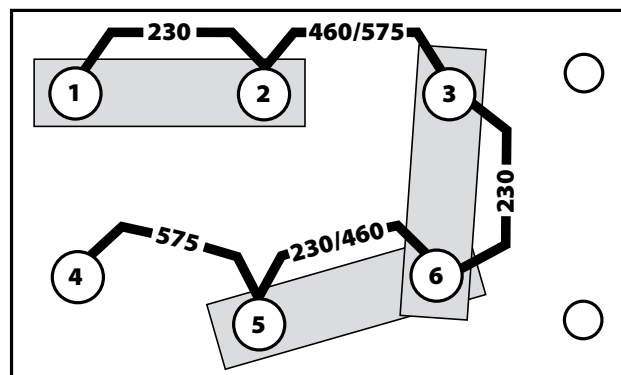

Figure 2-2. Input Terminal Board Configuration for 230V Input
5. Figures 2-2 thru 2-5 illustrate the input voltage terminal board and the input voltage link connections. The particular voltages from which this power source may be operated are stated on the rating plate. The voltage links were factory set for highest voltage stated on the rating plate. If the power source is to